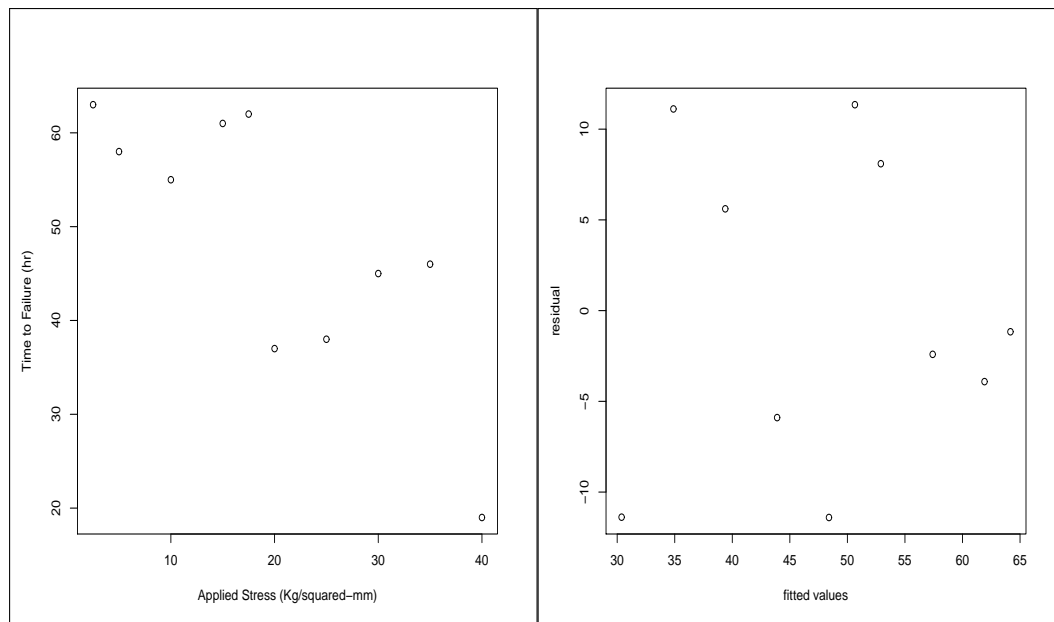

Figure 1: Left Subplot: Plot of Failure Times (h) vs Applied Stress (kg/mm^2). Right Subplot: Plot of regression residuals vs fitted values.
The resulting data values are given in the table below giving y_i , recorded observations of failure times, for different applied stress levels x_i . A scatterplot is given in the left subplot of Figure 1.
A scatterplot of the residuals versus fitted values is provided in the right subplot of Figure 1.
- B) Using the plots provided in Figure 1 comment on the suitability of these statistical assumptions for this model, where applicable. One or two qualitative statements per plot will suffice to answer this question.